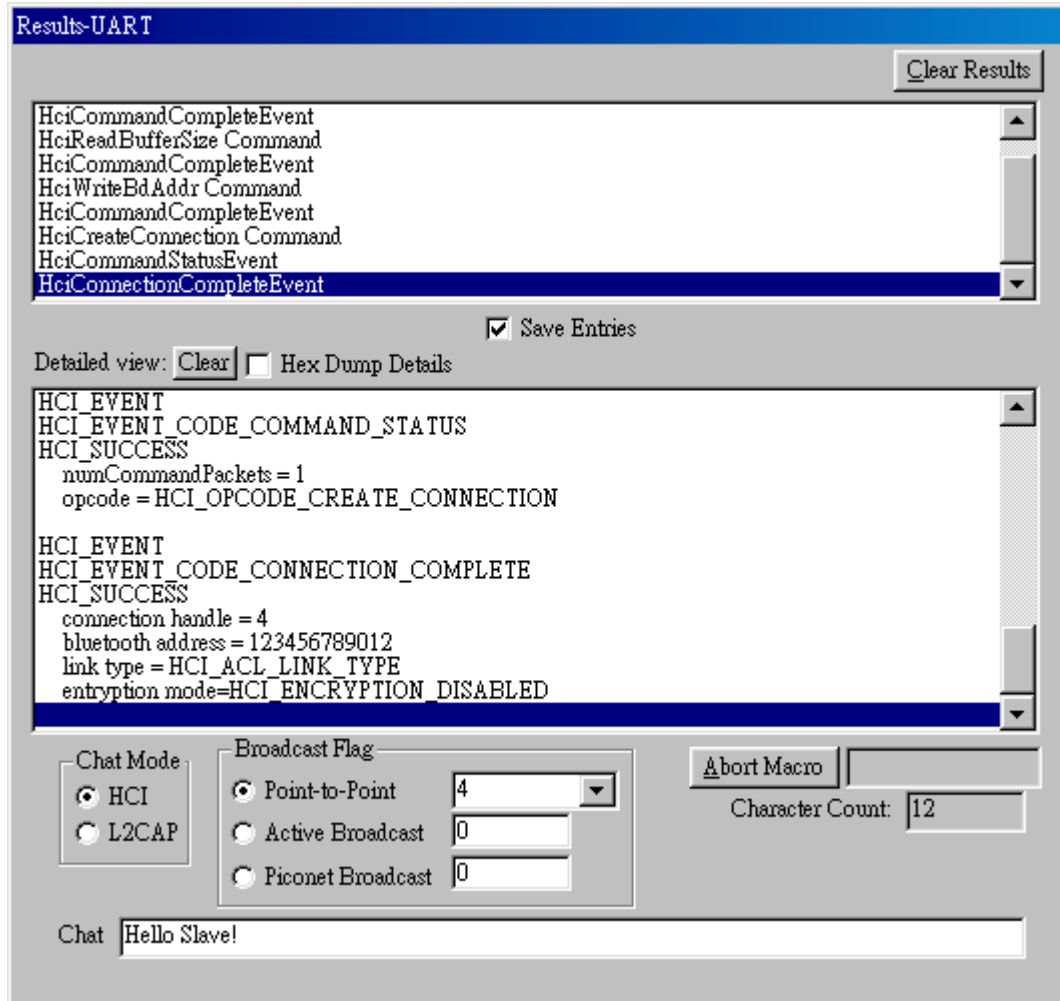

Figure 23: Type in "Hello Slave!" in Master Device Side
10. On the Master computer, input **"Hello Slave!"** into **"Chat"** dialogue box and click **"Enter"** button on the keyboard. (as Figure 23).